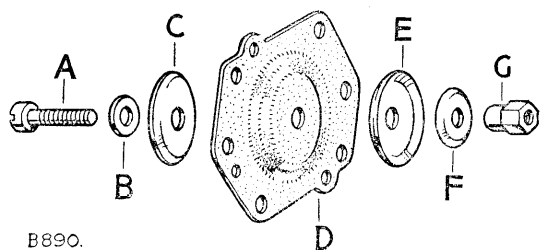

Fig. M-7—Layout of accelerator pump membrane assembly, 2 litre Petrol
5. Fit the operating rod to the new membrane (Figs M-7 and M-8) taking care not to twist the membrane when tightening the securing nut.